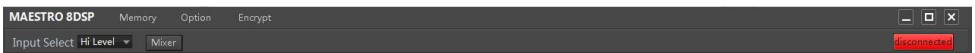

Figure 3.4.7
**Step 4:** After data transfer is completed, the machine load preset scene is complete, but you can see the upper left corner of the software will appear as the currently running preset scene the name of (Figure 3.4.7 but once in the console interface parameters changed, it will become the" Custom "in the name, because this time the machine is running and the data has been loaded set of data that is different).